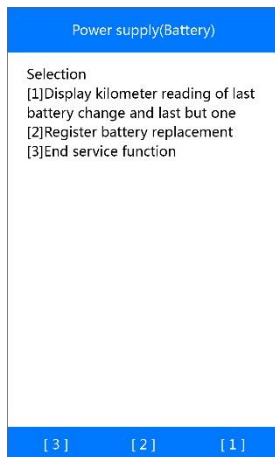

Figure 5-54 Sample Register Battery Replacement screen
- 1) From *Figure 5-54*, press **[2]** to continue.